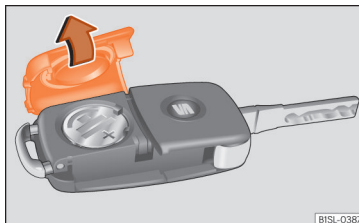

Fig. 87 Vehicle key: battery compartment cover.
- Remove the cover from the back of the vehicle key » Fig. 87 in the direction of the arrow » i.
- Fit the cover as shown » Fig. 87, pressing it onto the vehicle key casing in the opposite direction to that shown by the arrow until it clicks into place.